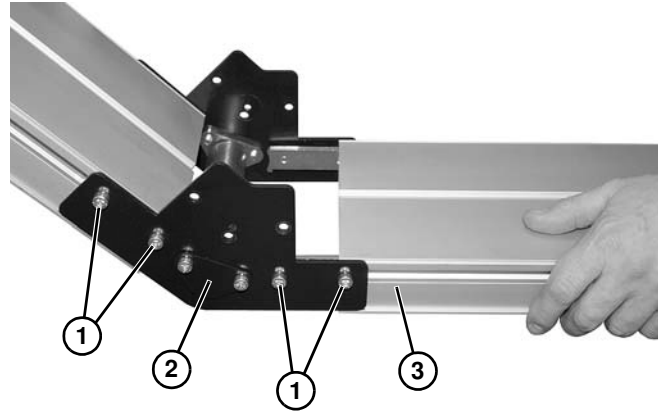

Figure 12
1. Roll out conveyor belt. Loosen four screws (**Figure 12, item 1**) on both sides of knuckle (**Figure 12, item 2**). Slide frame (**Figure 12, item 3**) into knuckle (**Figure 12, item 2**). Tighten screws (**Figure 12, item 1**) to 60 in-lb (7 N-m) on both sides of conveyor.